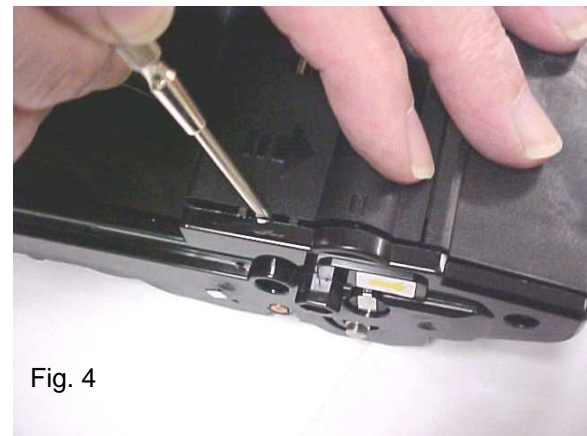

Fig. 2
2. Using a Phillips screwdriver, remove the three screws on the contact side end cap (Fig. 2).